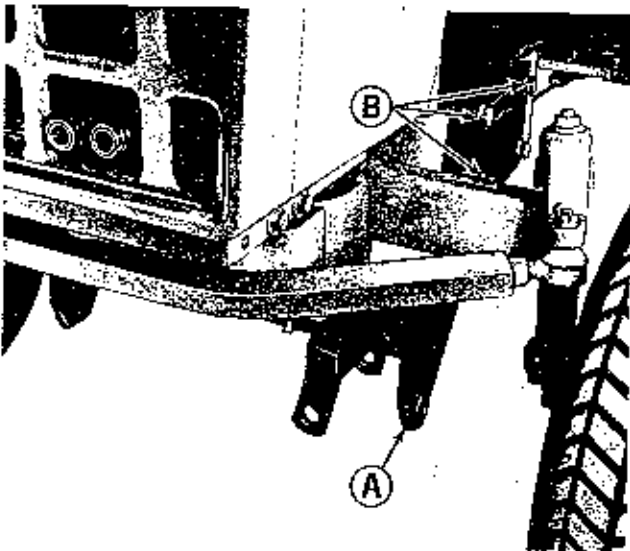
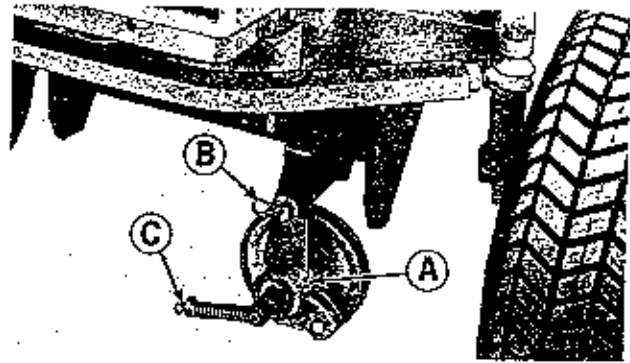
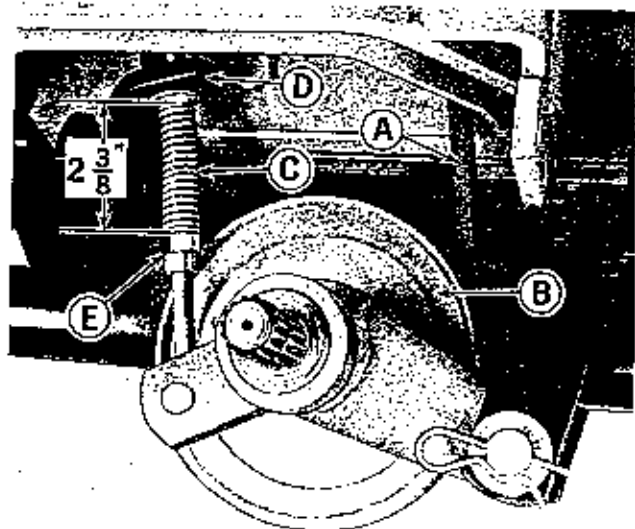
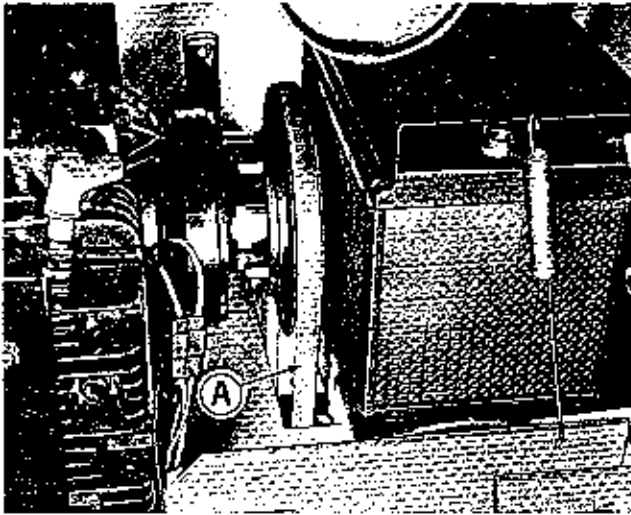

Figure 1. Hitch for front attachments installed on tractor.
Figure 2. Snow thrower drive installed on hitch assembly.
Figure 3. Drive belt tension adjustment.
Figure 4. Tractor hood raised to show drive belt installed on PTO pulley.
1. See figure 1. Install the hitch assembly for front mounted attachments (A) to the tractor frame as shown using eight capscrews and lock washers (B). Tighten the capscrews securely. If the snow thrower drive assembly (Figure 2, item A) is already installed on the hitch assembly for front mounted attachments, it need not be removed to install the hitch assembly.
2. See figure 2. If the snow thrower drive assembly (A) is not already installed on the hitch assembly, install it as shown in figure 2, using the pin and spring clips at (B).
3. See figure 3. Place drive belt (A) around pulley (B). Remove the spring clip (Figure 2, item C) from the belt tensioning assembly and place the belt tensioning assembly (Figure 3, item C) through the hole in bracket (D). Install the spring clip (figure 2, item C) through the hole in the tensioning assembly (C), above bracket (D).
4. See figure 4. Raise the tractor hood and install drive belt (A) over the power take off pulley as shown. To do this it may be necessary to loosen the belt tightening assembly by turning the two nuts (Figure 3, item E) counter-clockwise, as viewed from below.
5. See figure 3. After drive belt (A) has been installed over
8. See figure 3. Turn the two belt tension adjusting nuts (E) counter-clockwise as viewed from below to release tension on drive belt (A).
9. See figure 4. Remove drive belt (A) from the engine power take off pulley.
10. See figure 3. Remove the spring clip above bracket (D) and replace it as shown in figure 2, item C.
11. See figure 2. Remove the drive assembly (A) from the hitch assembly by removing a spring clip and pin at (B). The tractor can be backed away from the snow thrower and used with another front mounted attachment such as the snow plow and dozer blade, or for jobs not requiring full ground clearance. If the tractor is to be used for jobs requiring ground clearance, perform step 12.
12. See figure 1. Remove the eight capscrews and lock washers (B) and remove the hitch assembly (A) from the tractor.